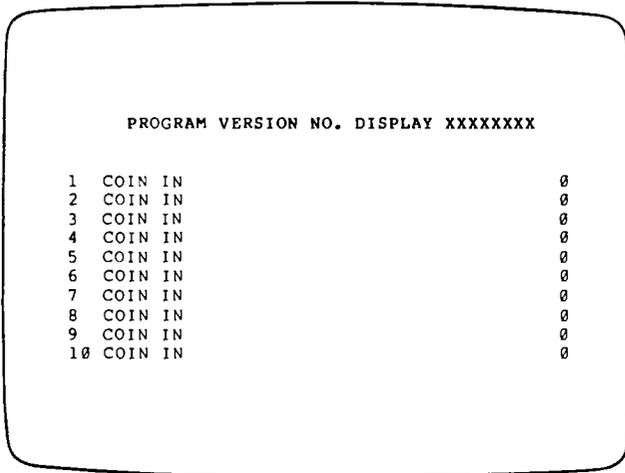

Figure 4-4
- 2) The second screen provides coin-in information for the number of coins played. See Figure 4-4.